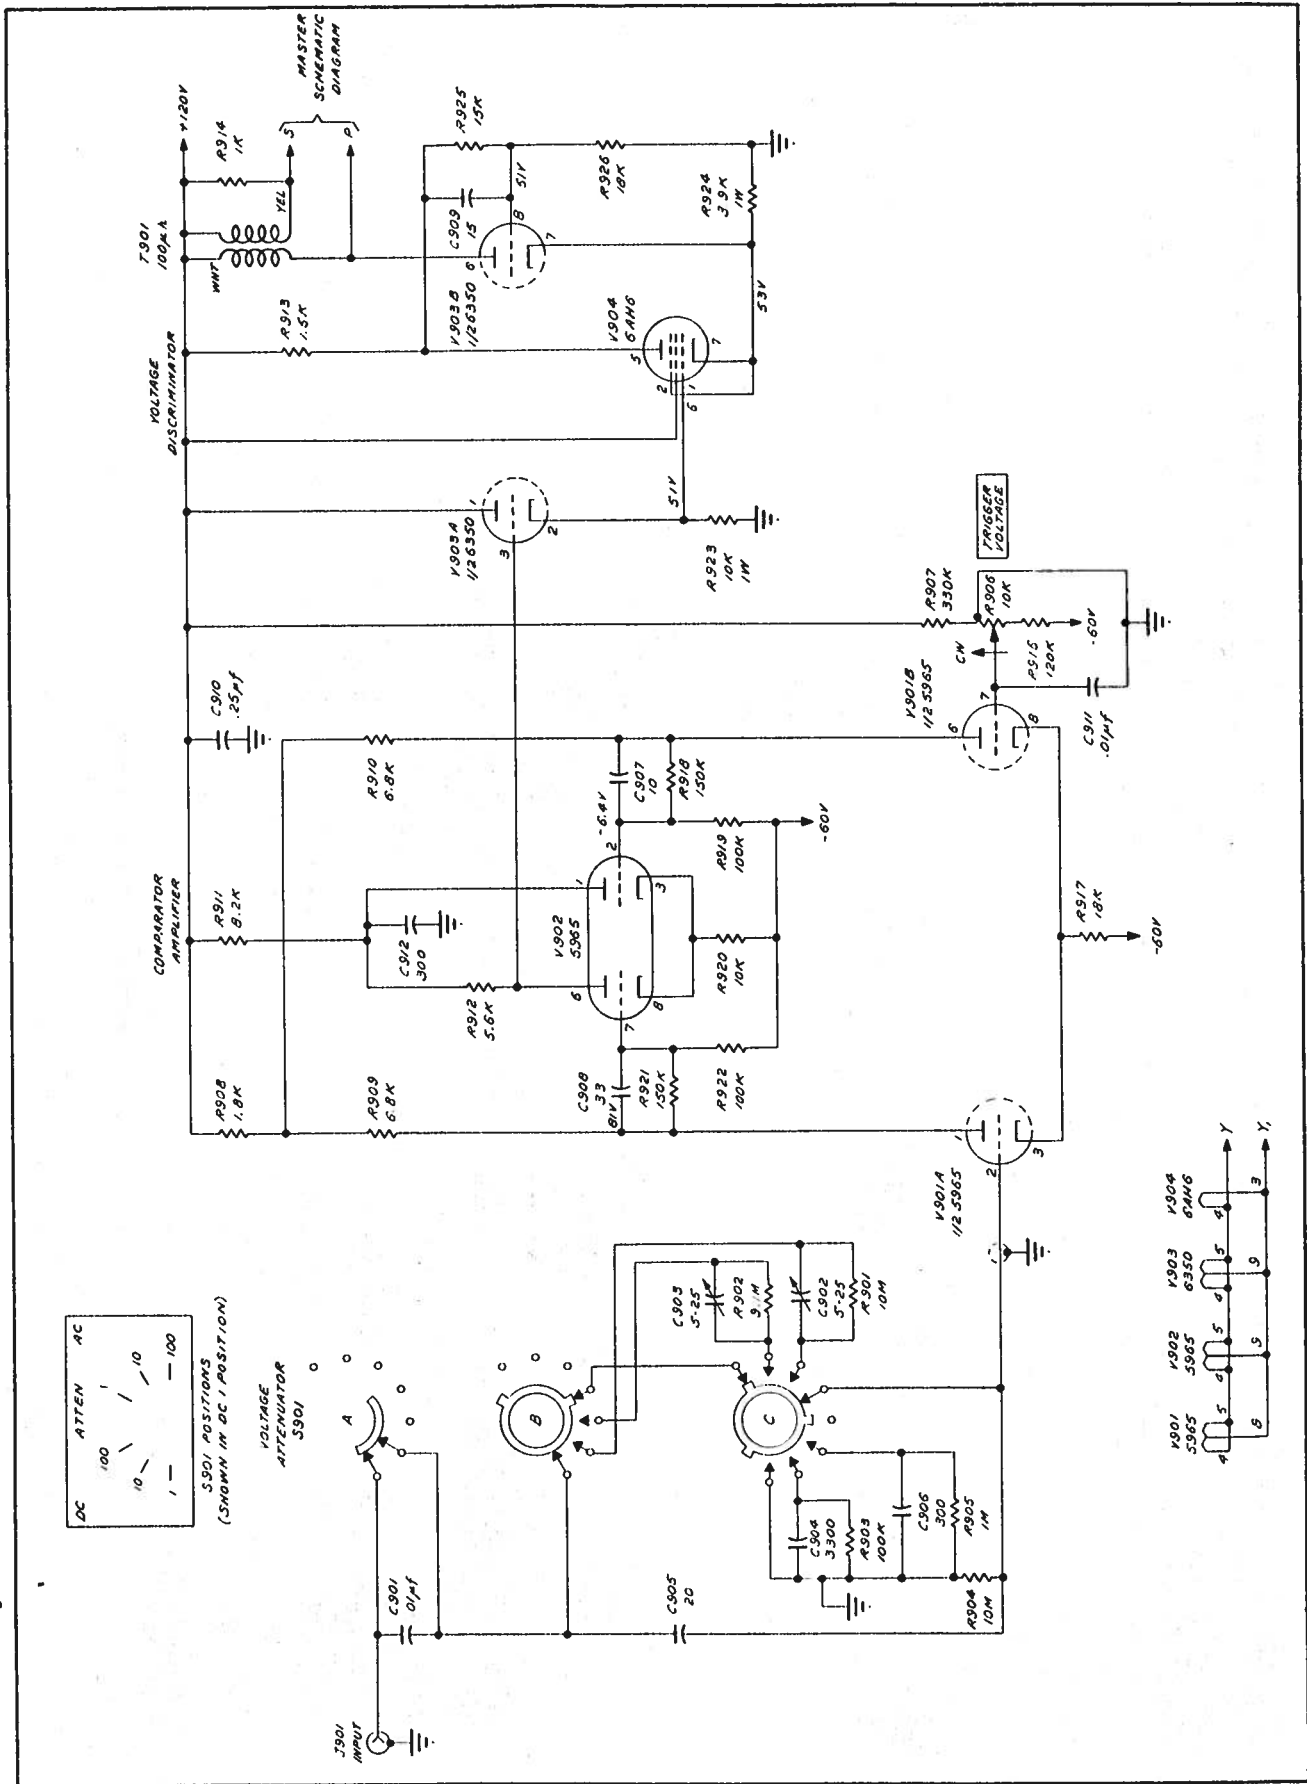
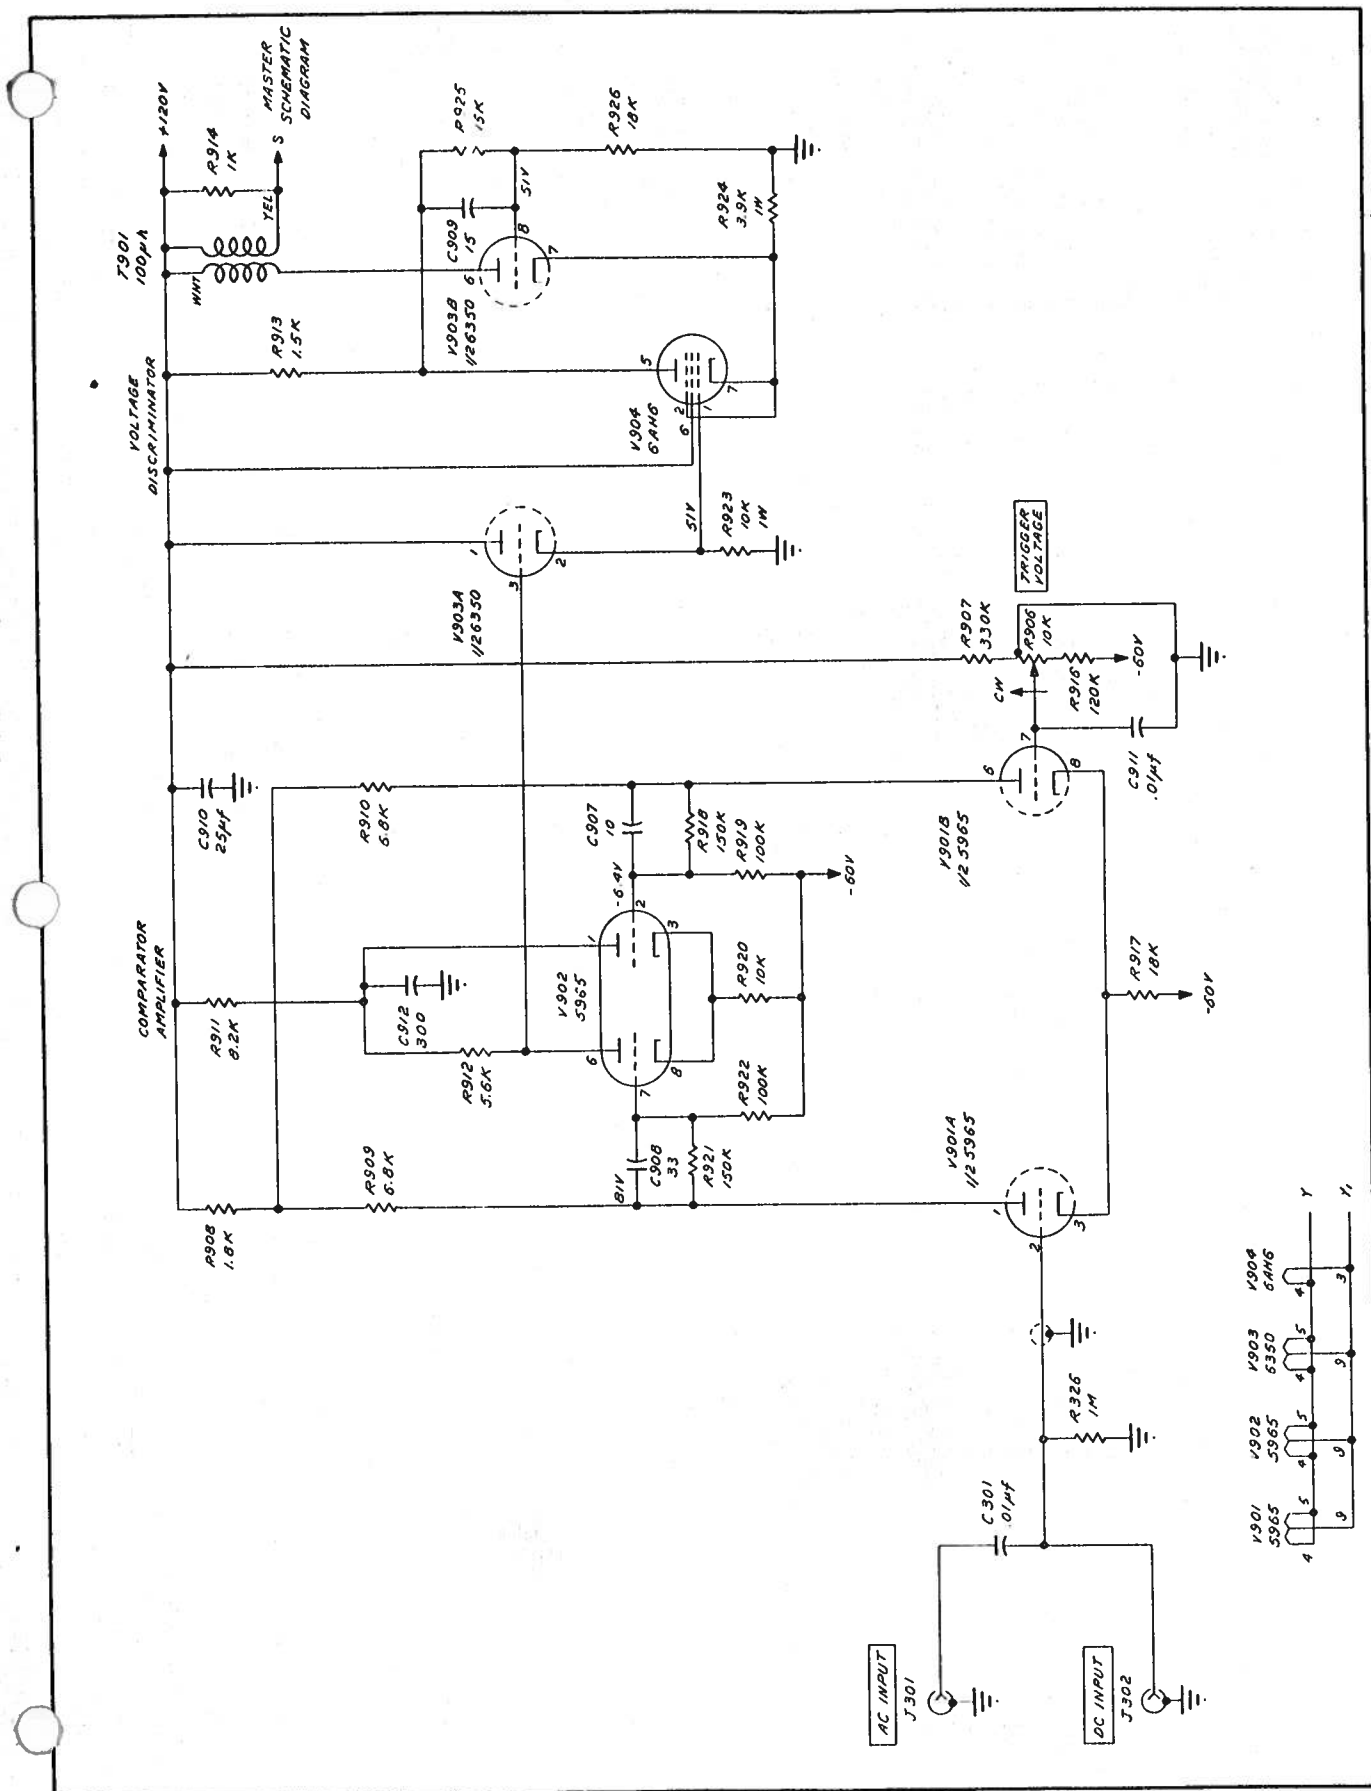

FIGURE J-3 A OR B INPUT CHANNEL IN 2 MC J MODIFICATION
FIGURE J-4 C INPUT CHANNEL IN 2 MC J MODIFICATION
- In addition, any input channels required to operate between 1 mc and 2 mc in count modes are supplanted by faster channels with a cathode-follower between the comparator amplifier and the voltage discriminator. These 2 mc input channels are shown in Figure J-3 (A or B channels, where appropriate) and Figure J-4 (C channel only).